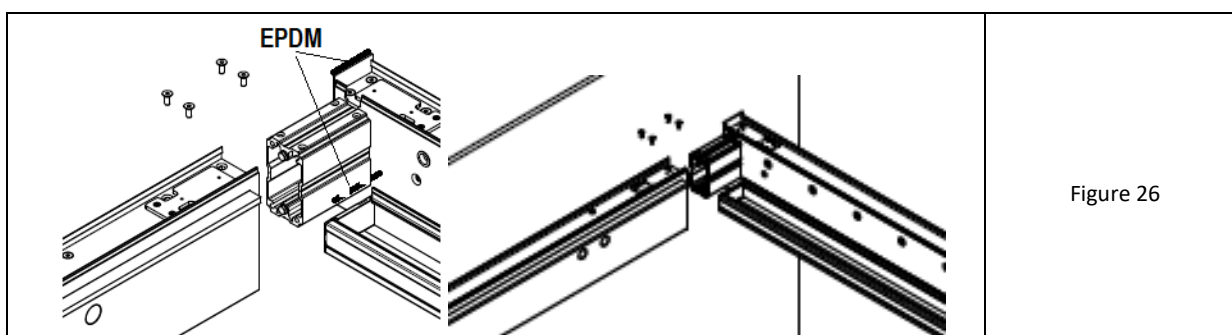

Figure 26
6. Apply EPDM self-adhesive spacer tapes to the end caps at the ends of the lengthwise beams on the wall side at the upper and lower edge after degreasing them (fig. 26).